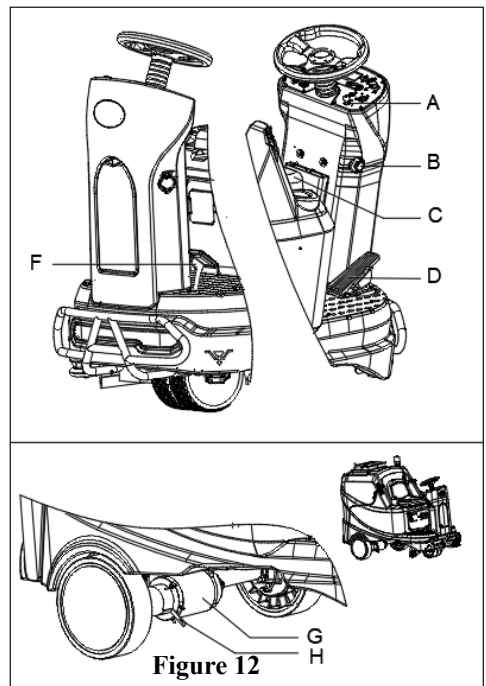

Figure 12
1. Turn the ignition key (A Figure 12) to “I”, sit on the seat (C).
2. Depress the accelerate pedal (D) slightly then release it to check if the machine can be steered forward and stopped.
3. To ensure safety, confirm the machine can be stopped immediately when pressing the emergency button (B). Rotate the emergency button to reset it.
4. Depress the mechanical brake pedal (F) quickly to check if the machine can be stopped immediately.
The brake of drive motor is released when the motor works normally, it locks when the motor is off. In some special cases, such as machine packing/unpacking, machine fault etc., the machine may need to be pushed. On drive motor (G Figure 12) push down the brake handle (H Figure 12), the machine brake is released, and the machine can be moved. After completion, push up the handle back, so the machine can work